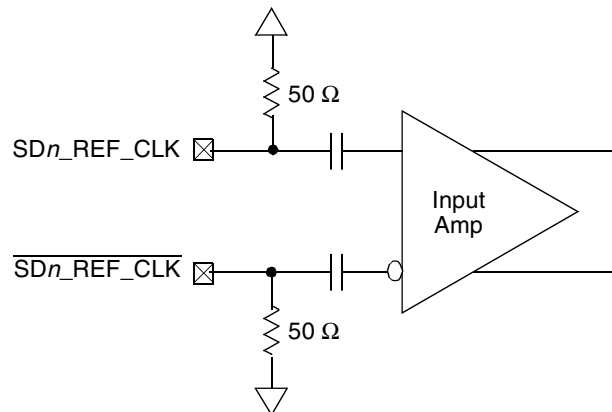

Figure 52. Receiver of SerDes Reference Clocks
Figure 52 shows a receiver reference diagram of the SerDes reference clocks.
- The SDn_REF_CLK and $\overline{\text{SDn_REF_CLK}}$ are internally AC-coupled differential inputs as shown in Figure 52. Each differential clock input (SDn_REF_CLK or $\overline{\text{SDn_REF_CLK}}$) has a 50 Ω termination to SGND_SRDSn (xcovss) followed by on-chip AC-coupling.